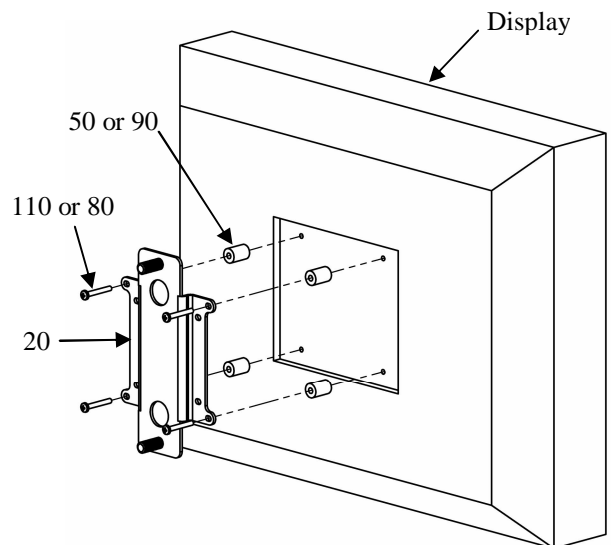

Figure 3. Recess Mount the Adapter Bracket
1. Place four nylon spacers (50 or 90) over the four mounting holes on the display. See Figure 3.
2. Place adapter bracket (20) over the four nylon spacers (50 or 90) placed in Step 1.